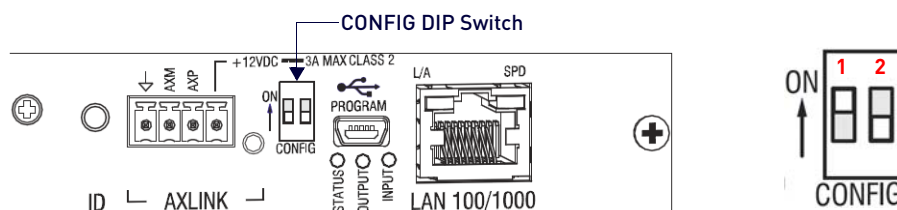

FIG. 30 CONFIG DIP Switch
1. Set the Position #1 DIP switch to ON to place the integrated Master into PRD mode (FIG. 30).